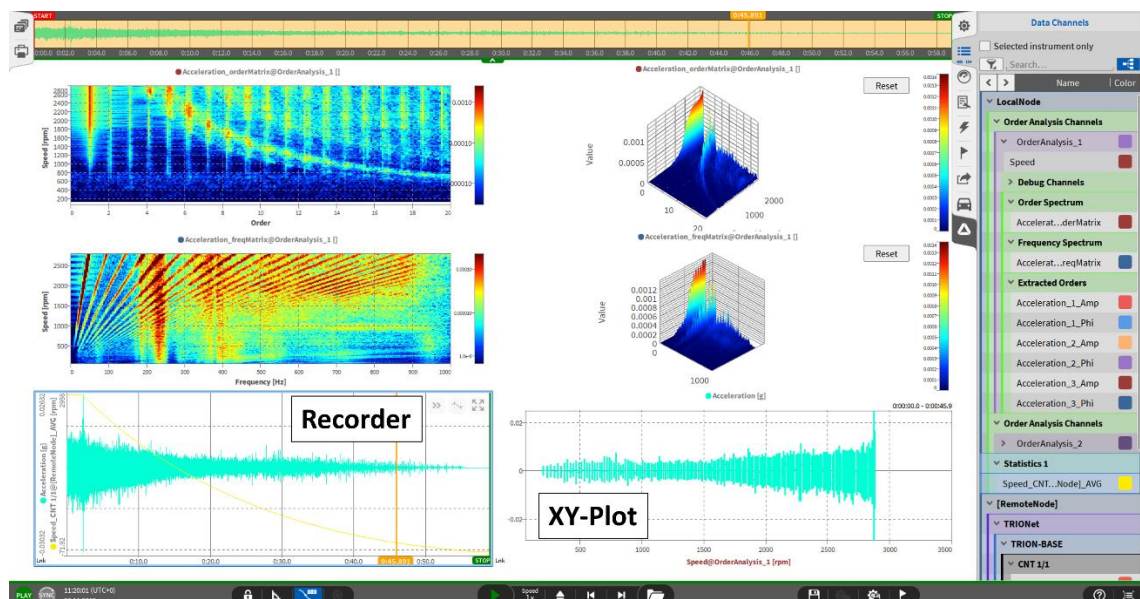

Figure 5-1: Offline order analysis
- Place additional instruments like a Recorder or an X/Y-Plot (see Figure 5-1)